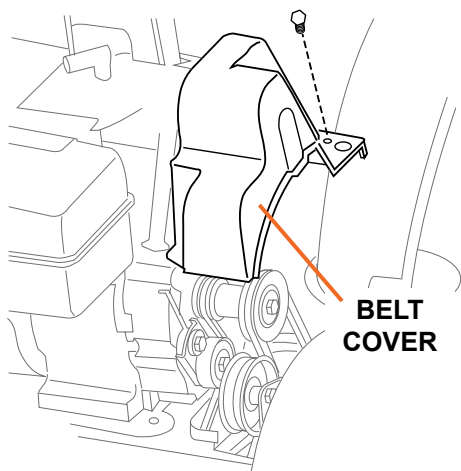

Figure 18
1. Remove the belt cover on the front of the engine by removing the two self-tapping screws (see Figure 18). Drain the gasoline from the snow blower, or place a container to catch leakage from the gas cap.